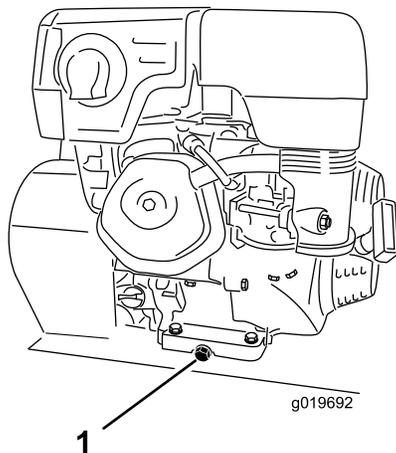

Figure 22
3. Remove the drain plug (Figure 22).